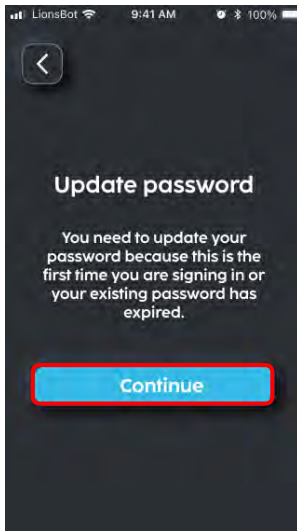

Fig. 4
3. Click on 'Continue' on the update password page (Fig.4).